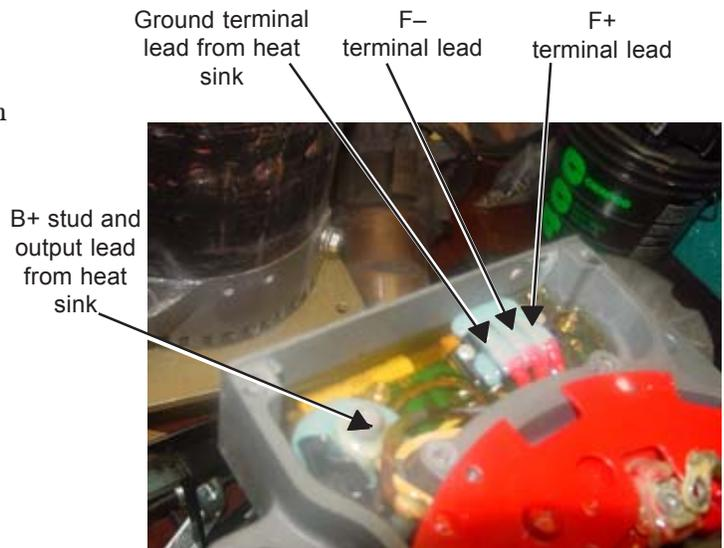
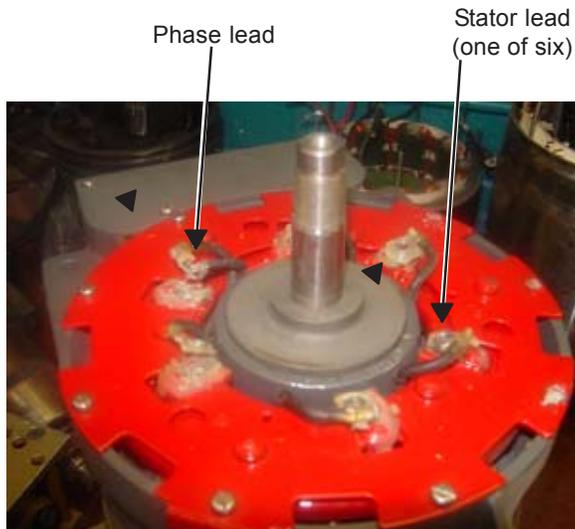

Figure 1—Control Unit Connections
Figure 2—Phase Lead and Stator Leads Connections
7. Remove hardware holding three terminal leads and B+ stud. Remove the three leads and the leads from the B+ stud. See Figure 1.
- Remove and save hardware holding stator leads and phase lead (attached to stator lead (at 10:00 position) to heat sink assembly. See Figure 2. Clean coating material from leads. Check terminals for rust or corrosion and clean with wire brush if necessary.
- Guide field coil leads through channel in housing. See Figure 2. Attach field coil leads to terminal block. See Figure 1 for correct locations. Tighten screws just enough to firmly hold leads in terminal block. Wire-tie field coil leads together inside channel.
- Install heat sink assembly, guiding stator leads and phase lead through center opening to their respective positions. See Figure 2.
- Install ground lead in terminal block. Tighten screw just enough to firmly hold leads in terminal block. See Figure 1 for position.
11. Connect stator leads and phase lead to proper stator terminals as shown in Figure 2. Torque hardware to 3.4 Nm/30 lb. in.